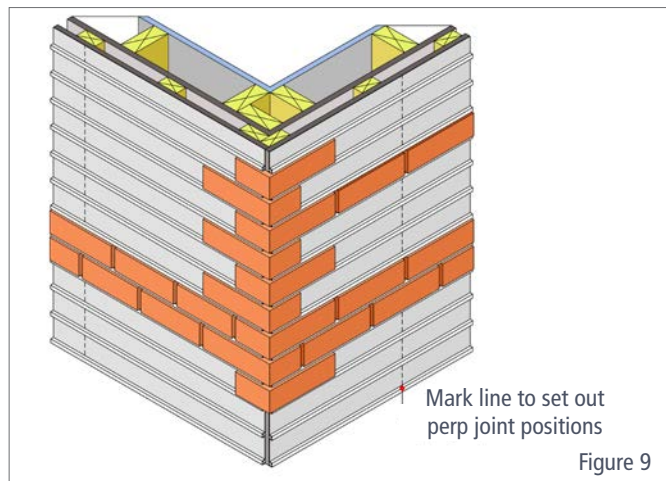

Figure 9
2. To determine brick spacing and setting out, apply a 10-12mm bead of adhesive to two courses on the panel and fix slips along two courses as far as first natural break (door/corner/expansion joint). Try to space bricks with 10mm vertical joints, but so that the end of the run finishes with a whole or half brick. Joints can be opened or closed within range of 7 or 8mm to 15mm to assist. Joints should be consistent size. See Figure 9.